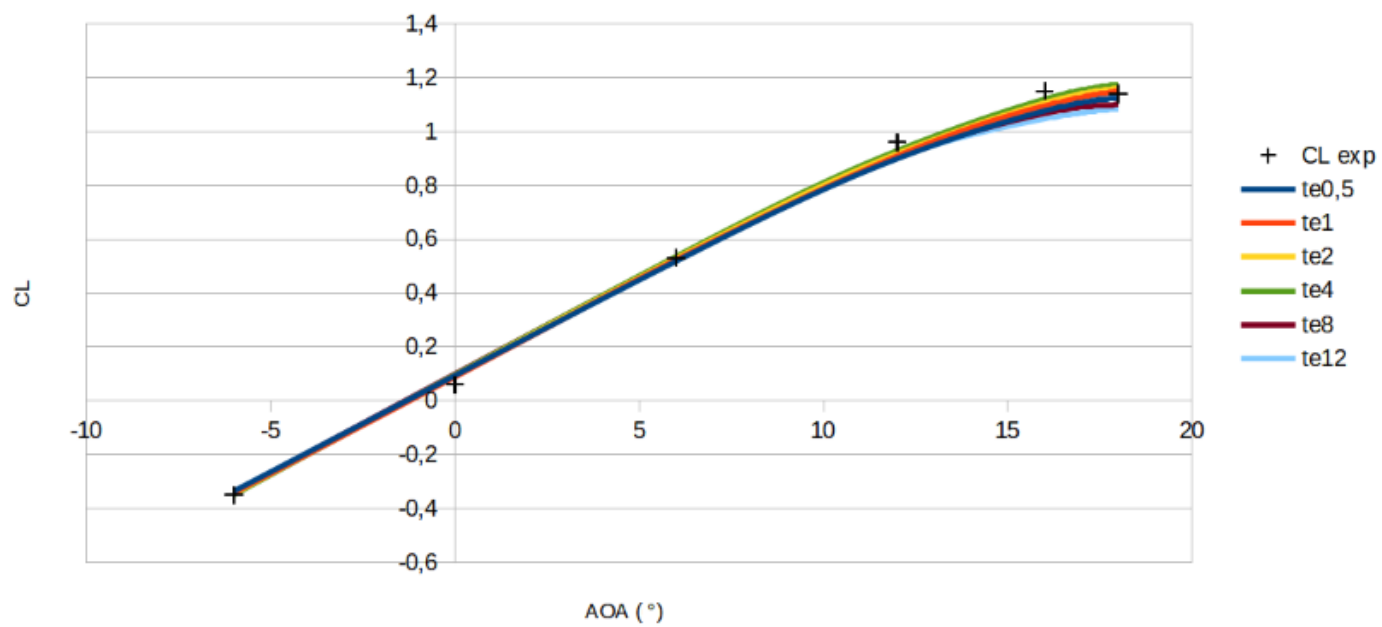

Figure 67: CL w.r.t AoA.
**Captions for figures 67 and 68 :**